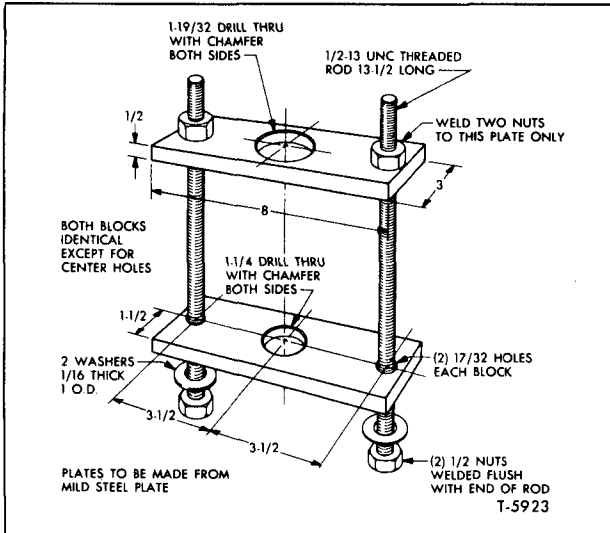

Figure 46—Power Spring Compressing Fixture
- NOTE: Refer to figure 46 for illustration of fixture. This fixture is necessary to hold the power spring in compression for disassembly. This fixture is special tool number J-23527.
10. Assemble cap assembly, spring, and piston. Compress assembly in fixture (fig. 46).